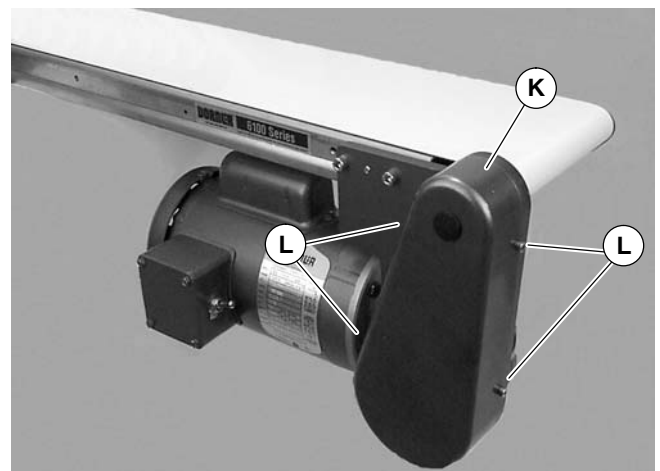

Figure 16
10. Install cover (K of Figure 16) with four (4) screws (L). Tighten screws to 4 Nm.
1. Remove four (4) screws (L of Figure 16) and remove cover (K).
4. Install cover (K of Figure 16) with four (4) screws (L). Tighten screws to 4 Nm.
6. Install cover (K of Figure 16) with four (4) screws (L). Tighten screws to 4 Nm.